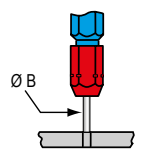

Fig. 2
- "NO GO" - Insert the end (red) of the gauge as shown (Fig. 2). The gauge should not pass through the opening.